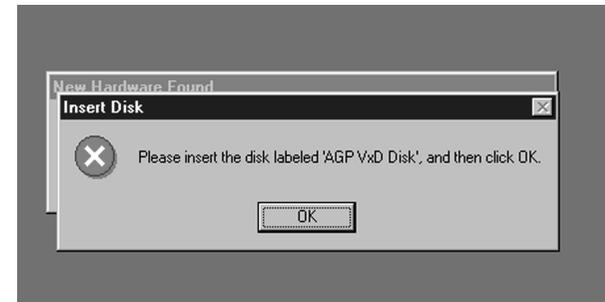

Figure 1-1
1. You will be prompt to insert the "AGP VxD Disk"(Figure 1-1). Click "**OK**".